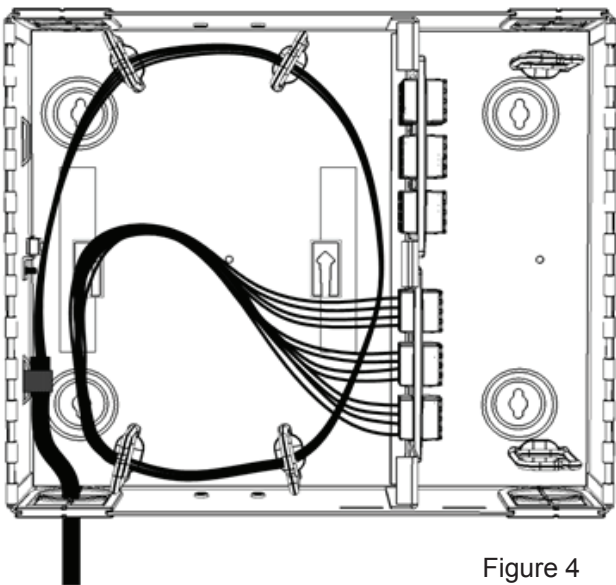

Figure 4
- 7) Using the cable management saddles, route the breakout fiber legs to the patching or termination point as shown in the configuration drawings below: (Figures 4 to 11)